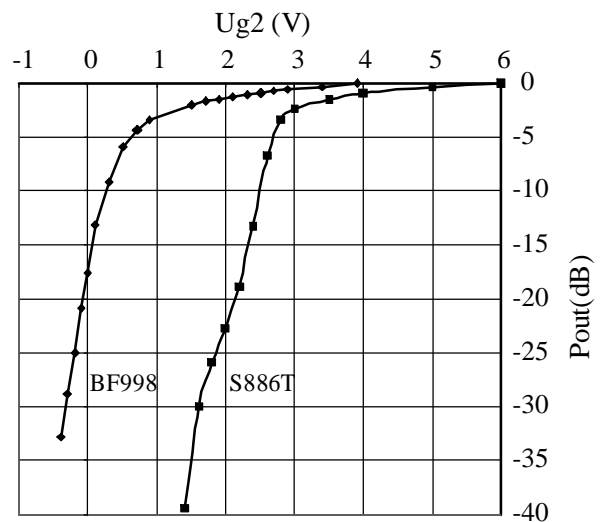

Figure 4. Comparison of gain control
- The slope of the AGC curve is higher. Figure 4 shows a comparison. This is an inherent feature of the MOSMIC, which might influence the stability of the AGC loop in a negative way, depending on the prior layout with the MOSFET. Only slight changes in the IF part have to be made in order to solve potential problems.